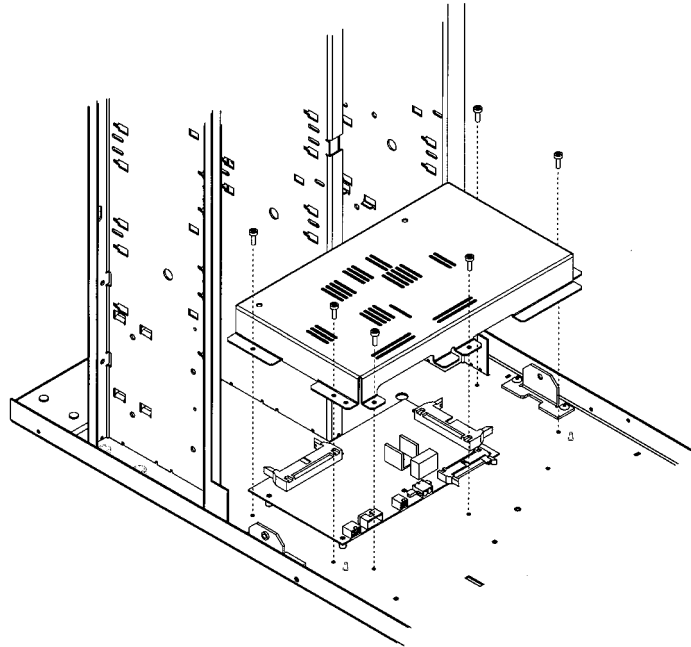

Figure 44: Removing the Controller PCA Cover
2. Remove the six T-20 screws on the controller PCA cover (see Figure 44).